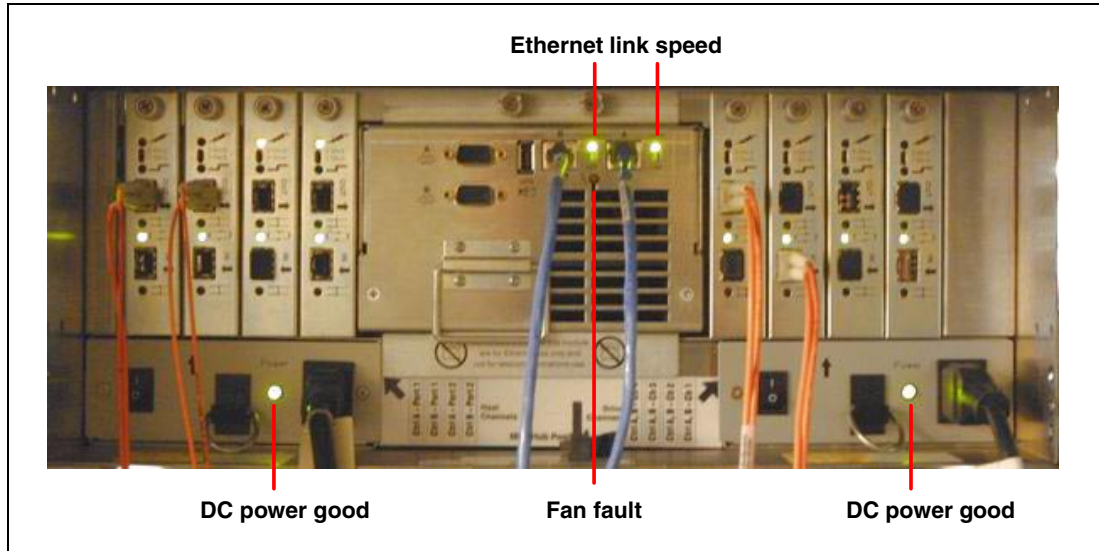

Figure 2-8 FASTT rear diagnostic LEDs
The back of FAStT700 also provides some diagnostic information via LEDs as shown in Figure 2-8.
- ▶ **Ethernet link speed LED** (green): There are two LEDs per Ethernet port (for a total of four LEDs), which are dedicated to controller A and B. The upper LEDs indicate a proper link with 100 Mb/sec., and the lower ones indicate a link with 10 Mb/sec. If FASTT700 is attached to the Ethernet, one of the LEDs per Ethernet connection is normally ON. In Figure 2-8, two of the LEDs are lit and the other two are not.